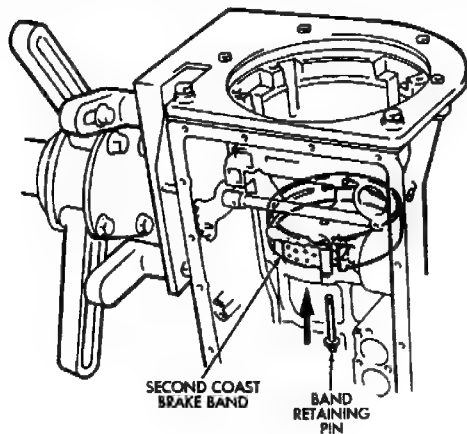

Fig. 23 Installing Band Retaining Pin
(28) Install pin in second coast brake band. Then install retaining ring on pin (Fig. 23).